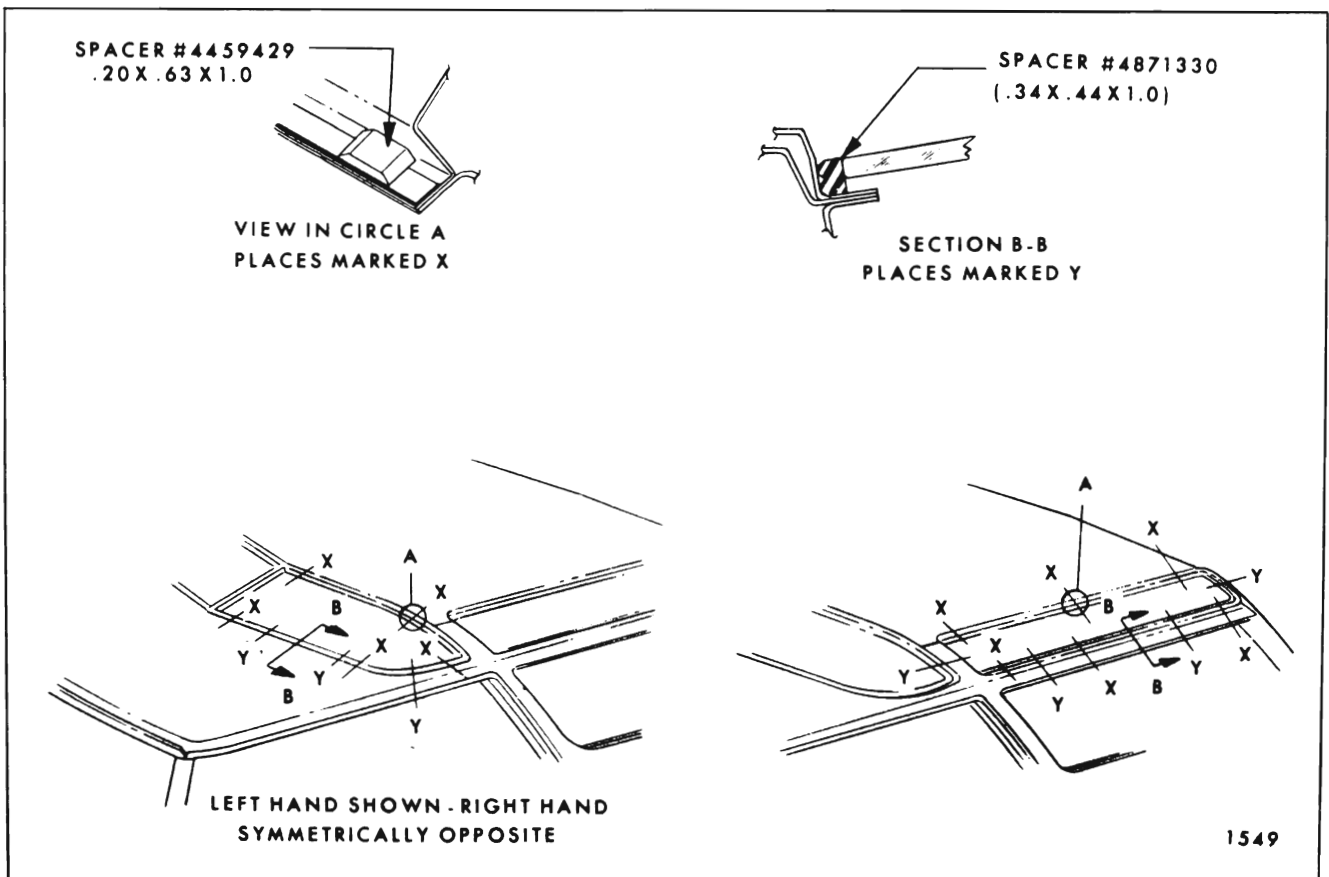

Fig. 4-15—Front and Side Skylight Rubber Spacer Installation
2. Using black weatherstrip adhesive, cement flat rubber spacers #4459429 or equivalent (.20 x .63 x 1.0) to window opening pinchweld flanges at "X" locations as shown in Circle "A" in Figure 4-15.
3. Using black weatherstrip adhesive, cement rectangular spacers #4871330 or equivalent (.34 x .44 x 1.0) to window opening rabbet at "Y" locations shown in Section "B-B" in Figure 4-15.